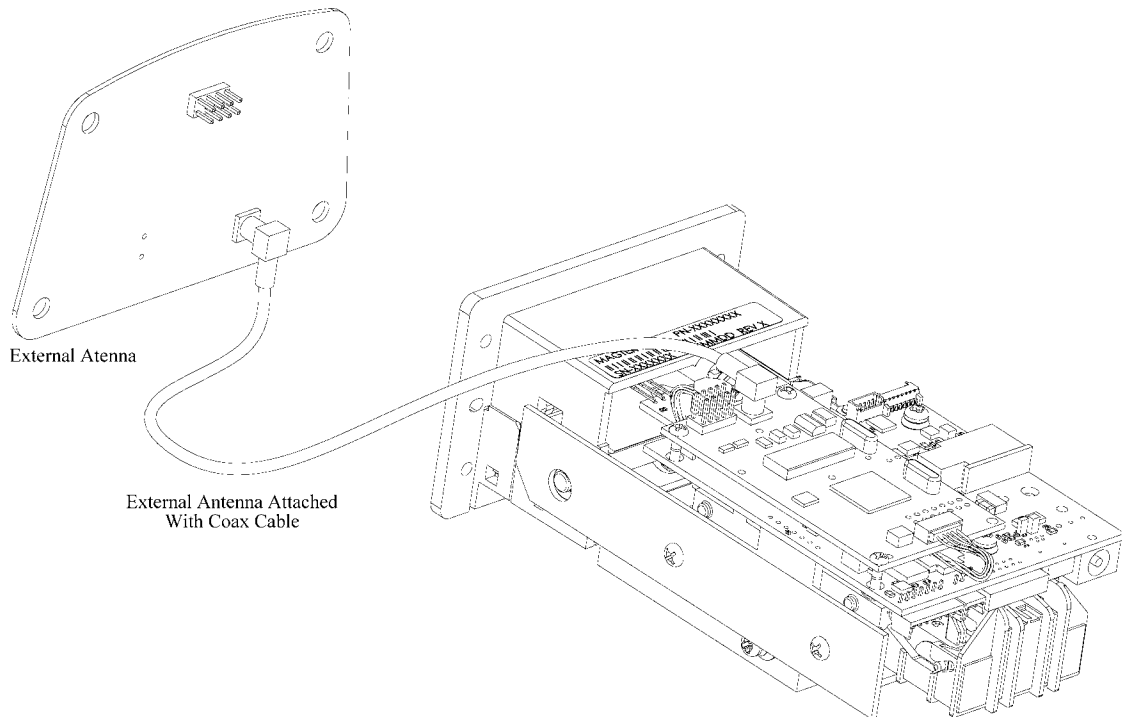

Figure 14. Using External Antenna without LED's (Coax Cable)
- Coax Cable – this 12” (30cm) cable offers a slightly greater range of antenna placement but it does not operate the LEDs on the antenna module (see Figure 14)